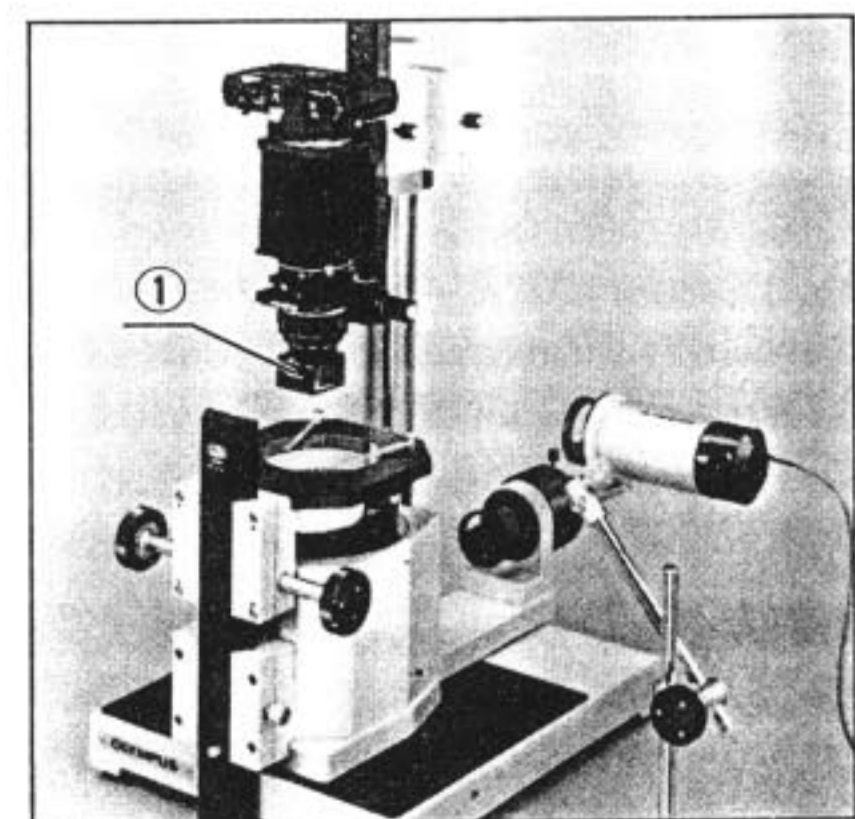

Fig. 20
These housings ① are available in 3 sizes, a choice of which depends upon the macro lens in use. (Fig. 20)